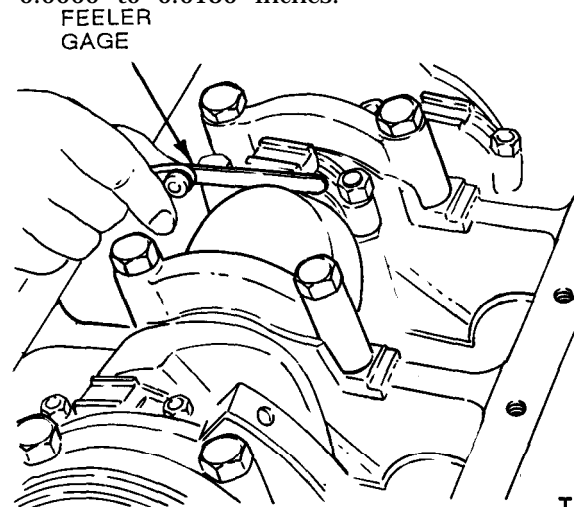

Figure 6-33. Checking Rod Side Clearance.
(5) Check the clearance of each bearing following the procedure under paragraph 6-33, Connecting Rod Bearing Replacement.
(6) After the bearings have been fitted, apply a light coat of engine oil to the journals and bearings.
(7) Turn the crankshaft throw to the bottom of its stroke, then push the piston all the way down until the connecting rod bearing seats on the crankshaft journal. Install the connecting rod cap. Torque the nuts to specifications.
(8) After the piston and connecting rod assemblies have been installed, check the connecting rod side clearance on each crankshaft journal (fig. 6-33). Side clearance should be 0.0060 to 0.0130 inches.